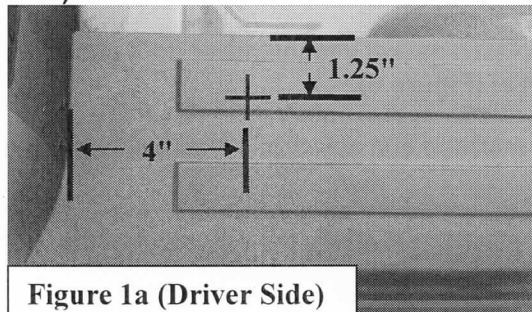

Figure 1a (Driver Side)
1. Measure, mark, and drill a 1/2" hole in the center of the two hidden **FRONT** stake pocket hole locations on the driver side and passenger side plastic rail caps. Location marked in (Figure 1a and 1b)